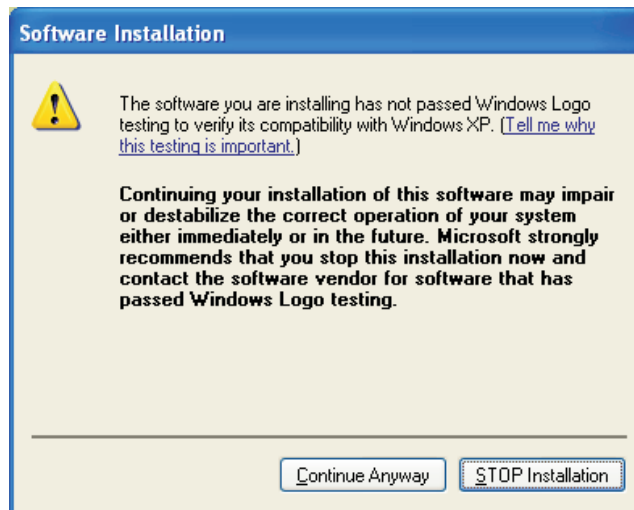

Figure 9. Warning about Windows Logo Testing
5. Click *Continue Anyway* (Figure 9) to continue the installation.